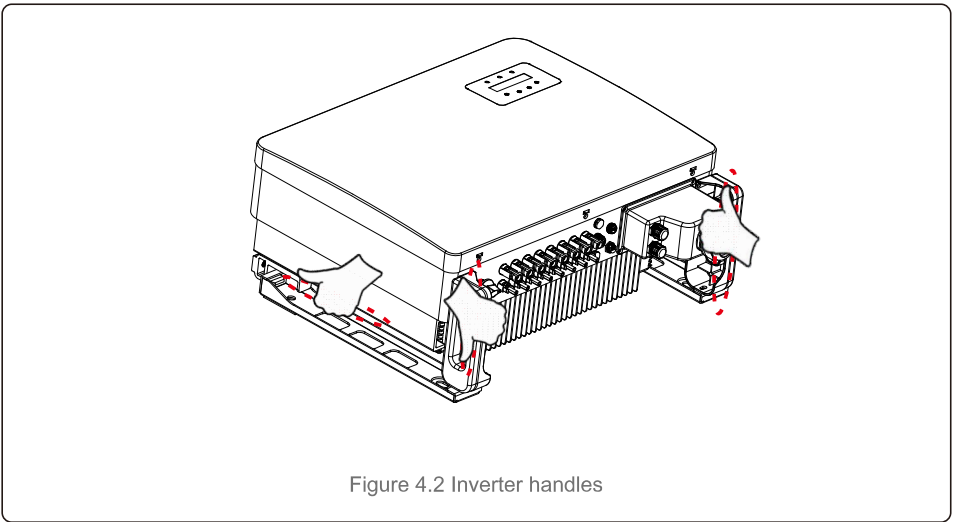

Figure 4.2 Inverter handles
2.Open the carton, then two people handle both sides of inverter through the area denoted dotted line. (see figure 4.2).